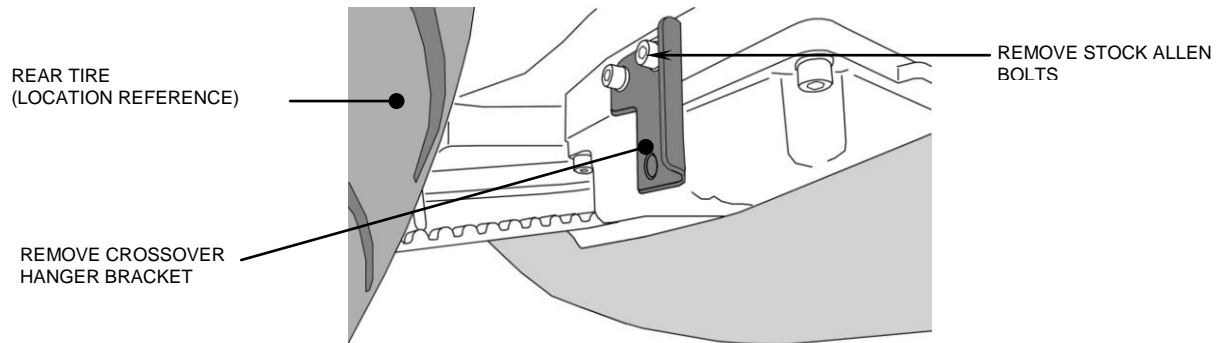

FIGURE 1
4. Remove the right side electrical cover to expose the (2) O2 sensors connectors. Disconnect the connectors for the front and rear headpipes from the motorcycle wire harness. NOTE: The O2 sensor with the black connector threads into rear headpipe bung, while the O2 sensor with the light grey connector threads into front headpipe bung.
6. Remove the stock crossover headpipe hanger bracket by removing the (2) stock allen bolts located on the backside of the transmission pan underneath the motorcycle. See Figure 1.